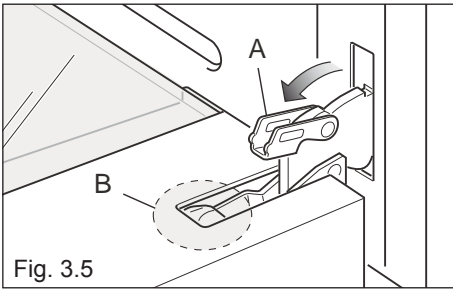

Fig. 3.5
2. Open the lever "A" completely on the left and right hinges (fig. 3.5).
4. Gently close the door until left and right hinge levers "A" are hooked to part "B" of the door (figs. 3.5, 3.7).